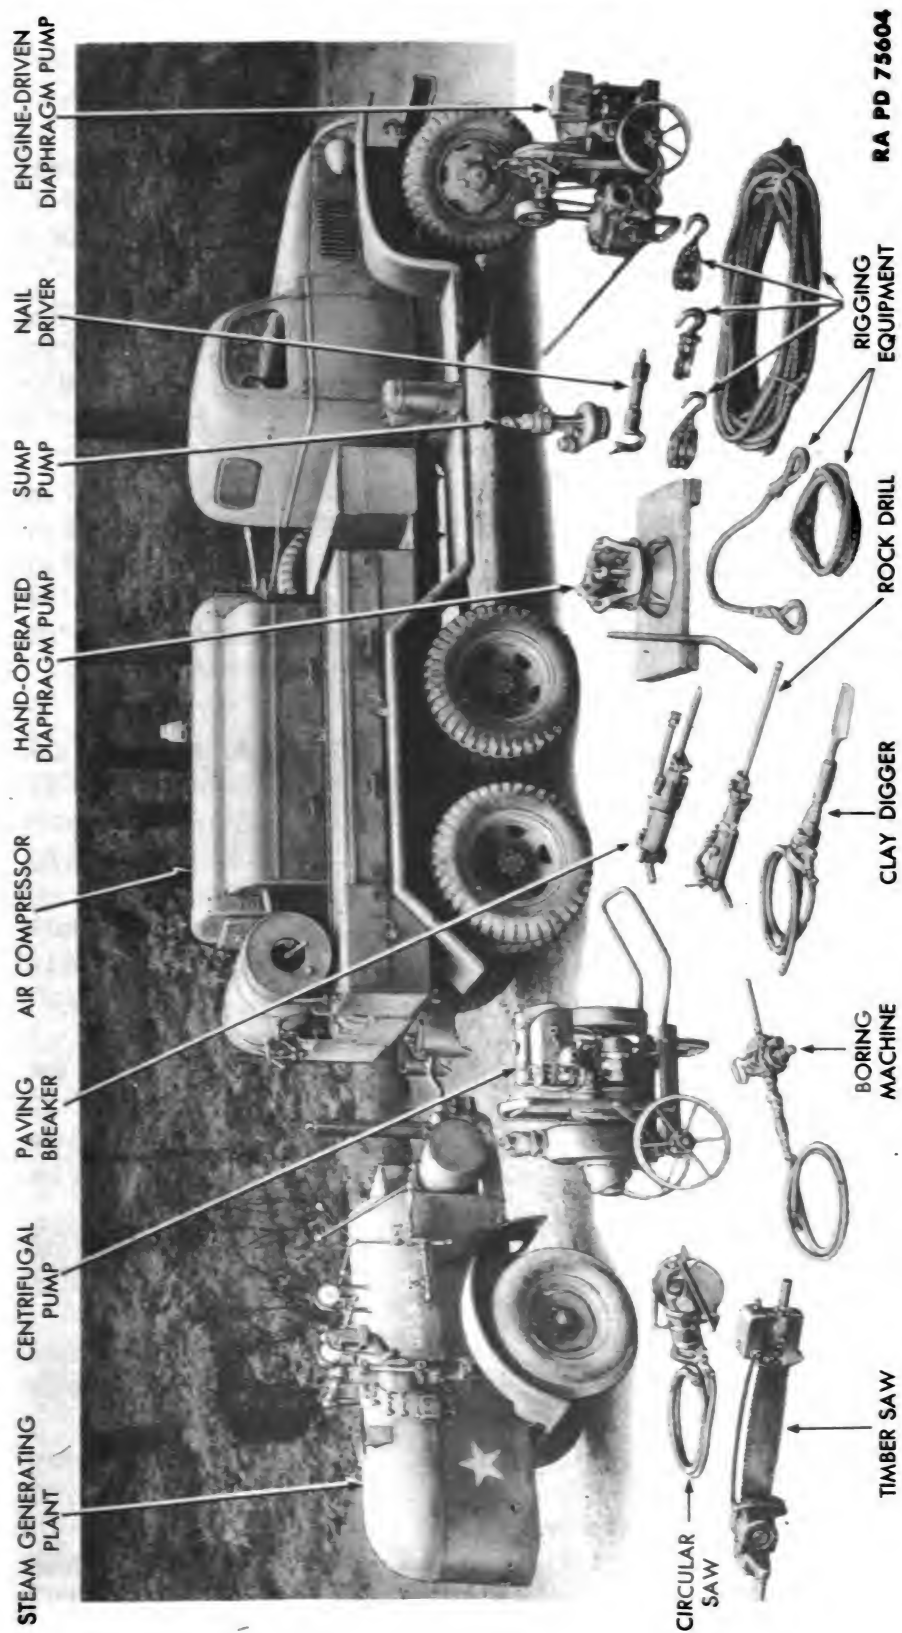

Figure 1 — Bomb Disposal Equipment
b. Materiel covered in this manual is as follows (fig. 1):